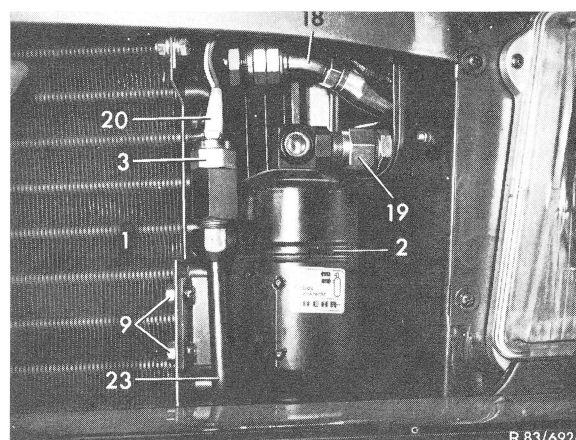

Figure 1 Layout of receiver on condenser
- 2 Pull both plugs from temperature switch (3) and unscrew temperature switch (Fig. 1).
- 4 Unscrew two hex. nuts (9) and remove receiver.